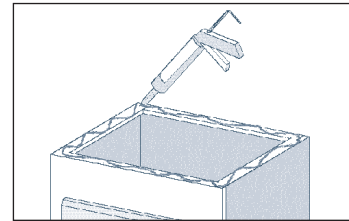

Figure 1
4. Wipe off the top of the vanity cabinet with a damp cloth to remove any dirt. Apply a generous ($\frac{1}{2}$ ") bead of silicone around the top edges of the vanity cabinet. See Figure 1.